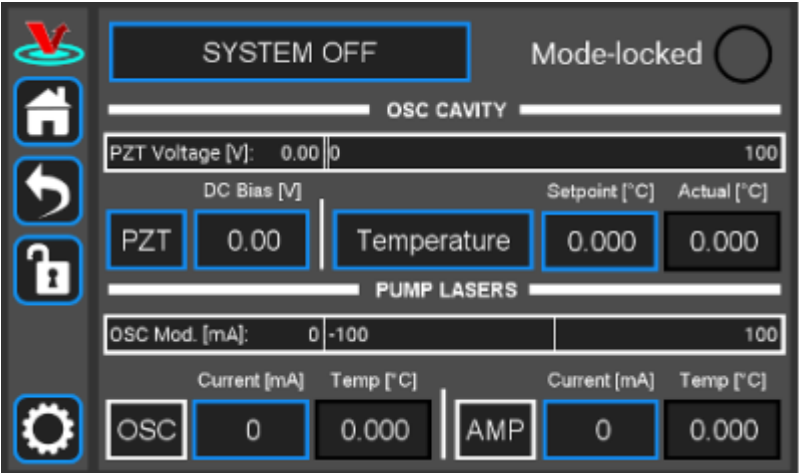

Fig. 3: The FFC-100 GUI in off state
1. Touch the “System Off” button at the top of the front panel screen (figure 3) to bring up a drop-down menu. Select “Standby” (figure 4) to turn on temperature control of the pump diodes and oscillator cavity. Temperatures will appear yellow as they approach stability, and turn green when stabilized within a predefined temperature range around the setpoint.